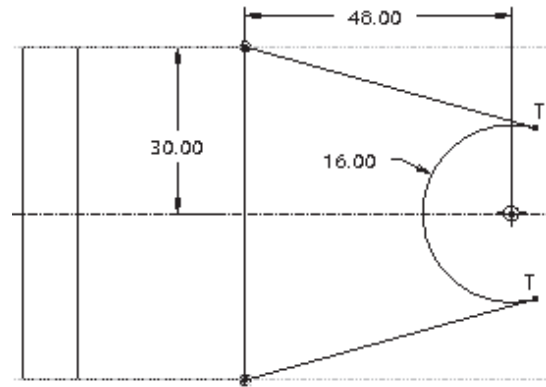

Figure 4-96 Sketch with dimensions and constraints
The next feature to be created is an extrude feature. The section for the extrude feature is shown in Figure 4-96. Before drawing the sketch, turn the model display to **No Hidden**.
2. Draw the sketch using various sketcher tools. In the sketch, draw a center line passing through the center of the arc, as shown in Figure 4-96. This center line helps in dimensioning the sketch. Add the required constraints and dimensions to the sketch, as shown in Figure 4-96. Before exiting the sketcher environment, turn the model display to **Shading**.